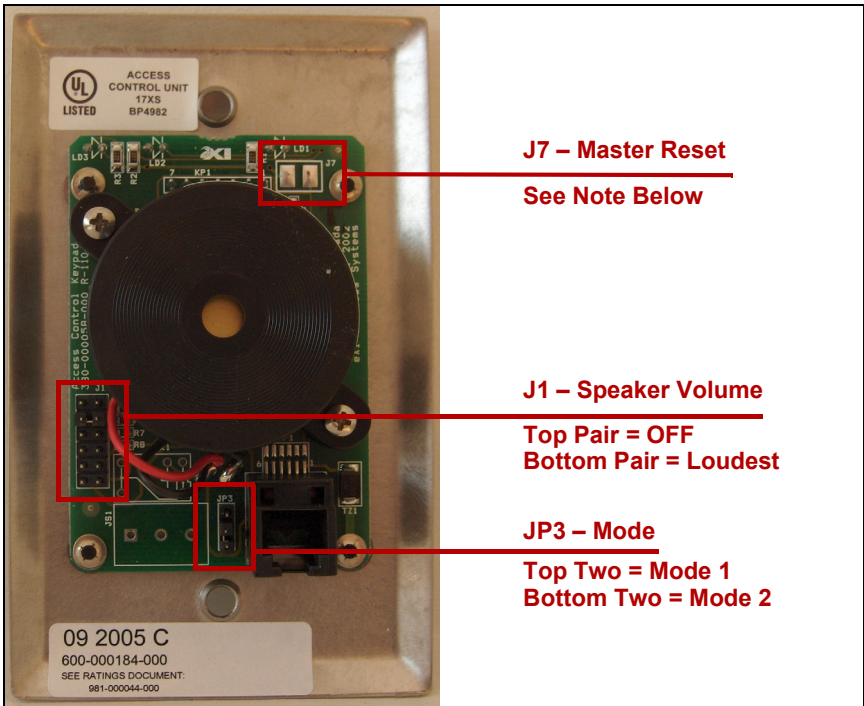

Figure 3-6: Keypad Jumper Locations
- 1** Place the jumper on the upper 2 pins of **JP3** on the keypad back to select Mode 1 (unique PIN codes) or place the jumper on the lower two pins to select Mode 2 (generic codes). If this is to be a Mode 2 keypad, continue with “Mode 2 Passcode Programming Procedure” on page 3-16 after completing keypad installation. See Figure 3-6 on page 3-17.
- 2** Set the appropriate volume level on **J1** on the keypad back. Place the jumper on the top pair of pins to set the volume to inaudible (off). Each lower pair of pins increases the volume, with the bottom pair being the loudest. See Figure 3-6 on page 3-17.